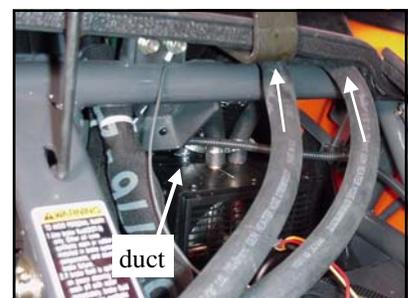

Figure 4
- 3.1 (See figures 4, 5 and 6). Route one end of the supplied heater hose over the round frame tube next to the hood hinge and install to one of the copper tubes on the top of the heater using one of the supplied 1" hose clamps. Route the hose to the underside of the vehicle and along the driver's side frame rail following the existing wiring harness as shown.
3.3 (See figures 4, 5 and 8). Attach one end of the remaining piece of hose to the other copper tube on the top of the heater and route in the same manner as the hose in the previous step. Continue this hose up the front of the engine as shown.